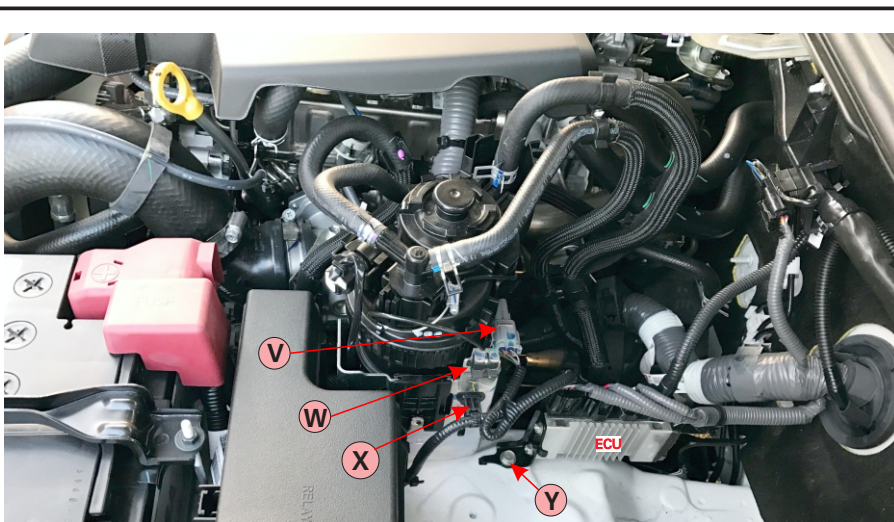

FIG. 1 FACTORY FUEL FILTER IDENTIFICATION
2. To remove the factory bracket, disconnect electrical connector (V), dismantle filter housing lock cable clip (W) and cable harness clip (X). Remove the bolt securing the ECU to the wheel arch besides the factory filter bracket (Y). See detail in Fig. 1.
1. Locate the bracket mounting position on the drivers side of the engine bay as shown in Fig. 1 , then remove the two (2) factory bolts (A in Fig. 1) from the suspension upper control arm shield, but do not remove the shield.